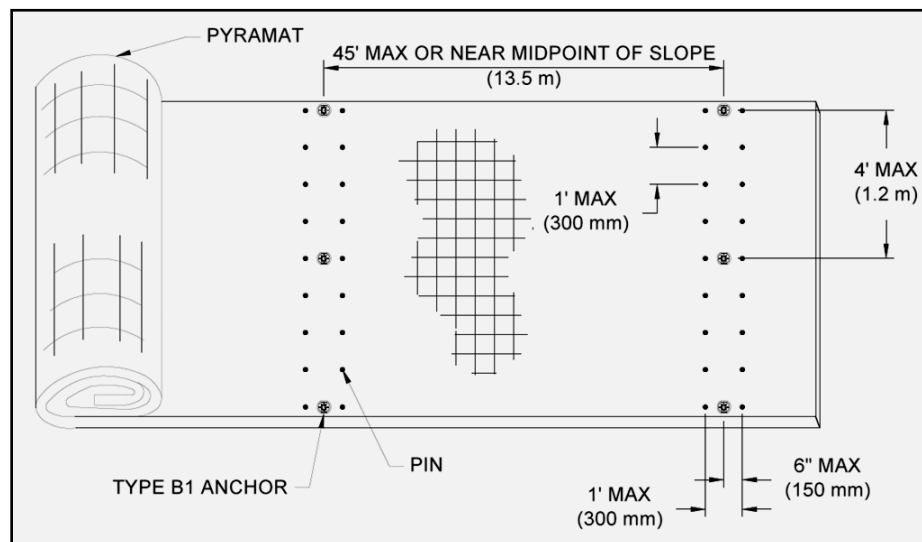

Figure 19: Simulated Check Slot
- For slope lengths greater than 45 ft (13.7 m), install simulated check slots. This method includes placing two rows of pins 12 in (300 mm) apart on 12 in (300 mm) centers and one row of PDEAs between the rows of pins on 4 ft (1.2 m) centers at 45 ft (13.7 m) maximum intervals or across the midpoint of the slope for slope lengths less than 60 ft (18.2 m) (Figure 19).